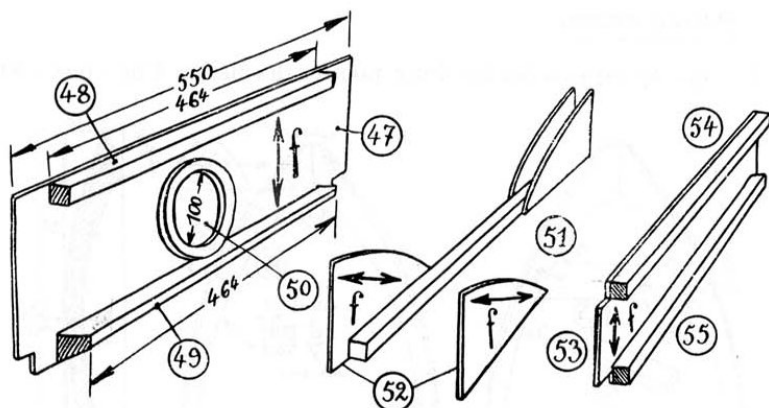

Figure 3.9: Front panel joining sides
The front flanges (33) are now joined by the panel (47) (fig. 3.9, cut so that its cross member (48) fits on the shim (35), and its crosspiece (49) at the bottom of the tabs (33) so that cross members and flanges are flush with the longerons (12). The height of the panel (47) will be determined in place. Do not forget that the hole (50) is reinforced with a ring. File away what could interfere with the flanges (29).